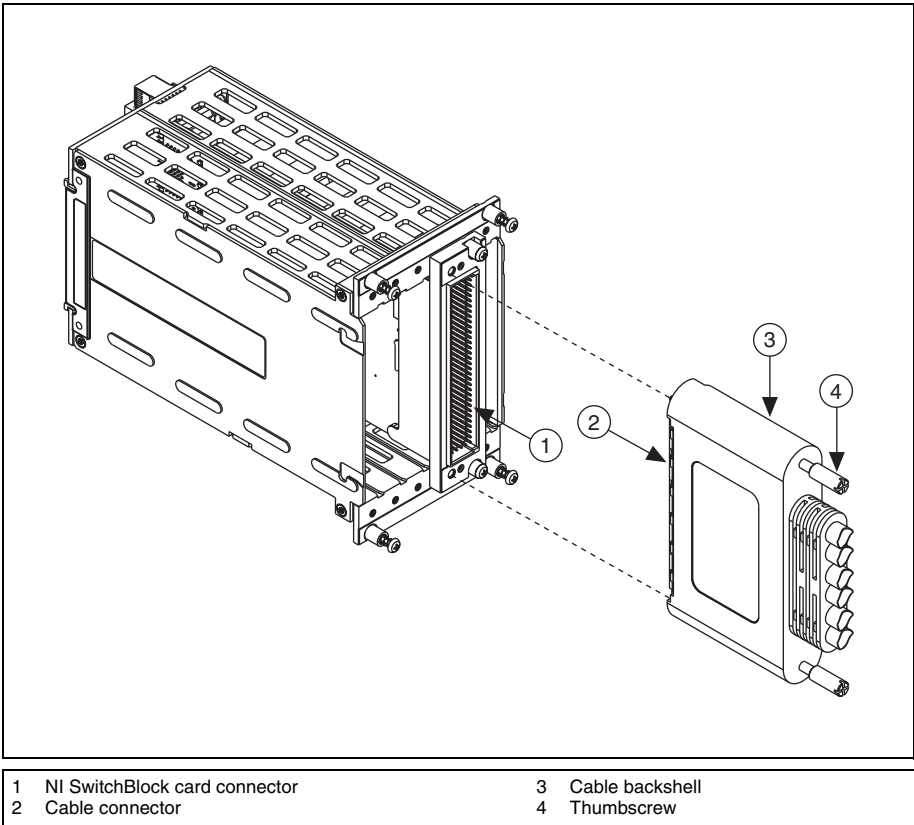

Figure 1. Connecting the Cable to the NI SwitchBlock Card
1. Connect the female end of the cable to the NI SwitchBlock card connector as shown in Figure 1. The keying pins must fit into the recesses in the front panel.